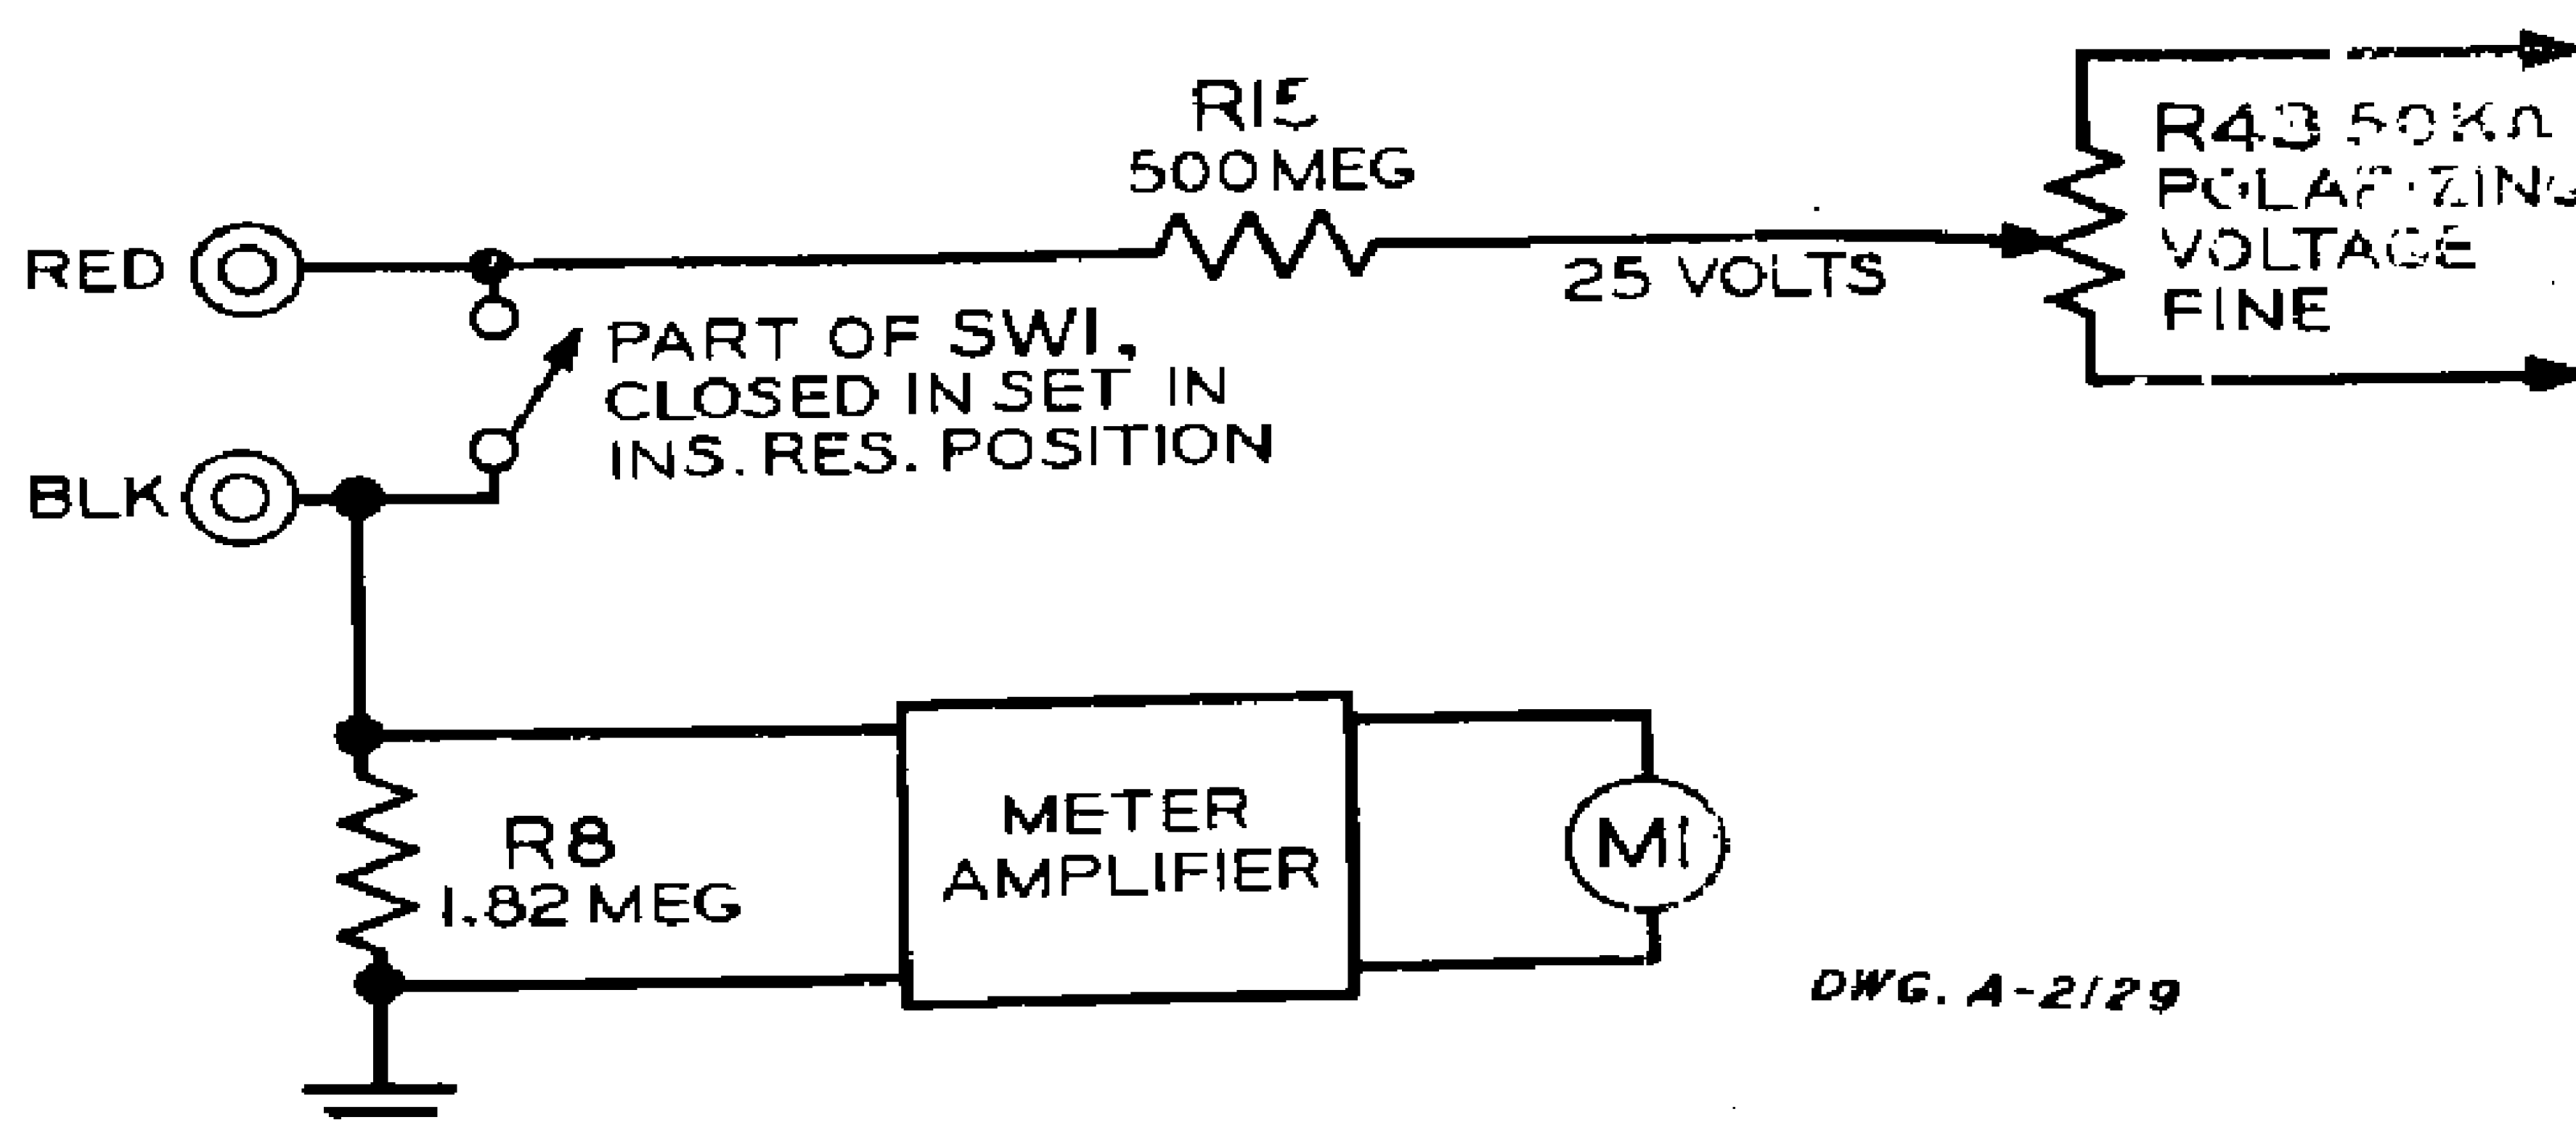

FIGURE 4
**3.1** The insulation resistance test is made only on electrostatic capacitors such as paper, film, or paper-film, mica and ceramic (d-c voltage above 25) capacitors. The measurements of IR for ceramics rated less than 25 volts are outlined in Section 5.1. Electrolytic capacitors are tested for leakage current as in Section 4. The basic Insulation Resistance circuit is shown in Figure 4. The meter and meter amplifier constitute a microammeter with a full scale sensitivity of 0.05 microamperes. In the SET INS. RES. position of the SELECTOR switch, the binding posts are short circuited, and a potential of 25 volts is applied to the meter amplifier through a 500 megohm resistor ( $R_{15}$ ) to produce a full scale reading. In the READ INS. RES. position of the SELECTOR switch, the short circuit across the binding posts is removed, and the meter is calibrated to read the IR (in megohms) of the capacitor being tested.